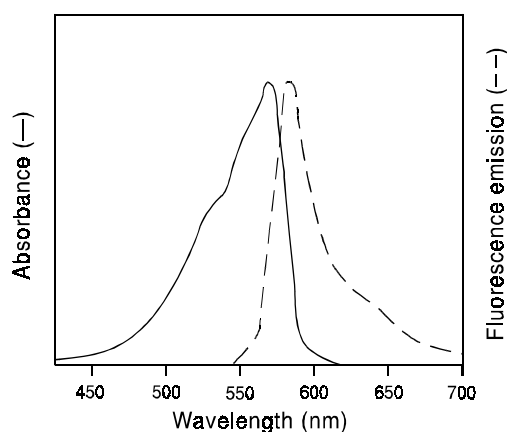

Figure 1. Normalized absorption and fluorescence emission spectra of resorufin, the product of the Amplex Red reagent.
The Amplex[®] Red Phosphatidylcholine-Specific Phospholipase C Assay Kit provides a sensitive method for continuously monitoring phosphatidylcholine-specific phospholipase C (PC-PLC) activity *in vitro* using a fluorescence microplate reader or fluorometer. In this enzyme-coupled assay, PC-PLC activity is monitored indirectly using 10-acetyl-3,7-dihydrophenoxazine (Amplex Red reagent), a sensitive fluorogenic probe for H₂O₂.¹ First, PC-PLC converts the phosphatidylcholine (lecithin) substrate to form phosphocholine and diacylglycerol. After the action of alkaline phosphatase, which hydrolyzes phosphocholine, choline is oxidized by choline oxidase to betaine and H₂O₂.² Finally, H₂O₂, in the presence of horseradish peroxidase, reacts with Amplex Red reagent in a 1:1 stoichiometry to generate the highly fluorescent product, resorufin.^{1,3} Because resorufin has absorption and fluorescence emission maxima of approximately 571 nm and 585 nm, respectively (Figure 1), there is little
2.8 Measure the fluorescence in a fluorescence microplate reader using excitation in the range of 530–560 nm and emission detection at ~590 nm (see Figure 1).